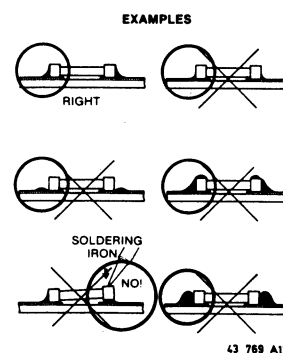

Fig. 8.3
- The quantity of solder must be proportional to the size of the solder land. If the quantity is too great, the SMD might crack or the solder lands might be torn loose from the printed board (see Fig. 8.3).